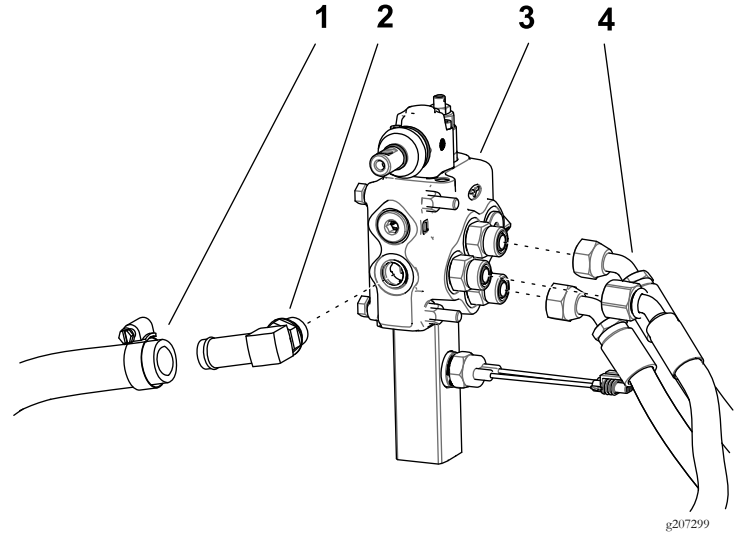

Figure 10
3. Mark the 3 pressure hoses and ports shown in Figure 10 with their corresponding port locations so that you can install them into the correct ports later.
4. Disconnect the 3 pressure hoses from the straight fittings on the side of the auxiliary valve (Figure 10).
5. Disconnect the return hose attached to the elbow fitting at the back of the auxiliary valve by loosening the hose clamp (Figure 10).
7. Remove the elbow fitting from the back of the auxiliary valve (Figure 10).